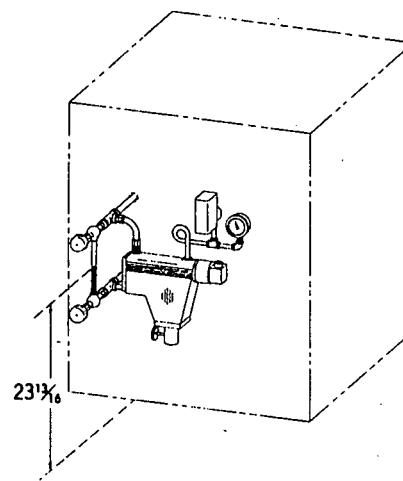

FIGURE 6
3. Install the standard Low Water Cut-off as shown in Figure 6.